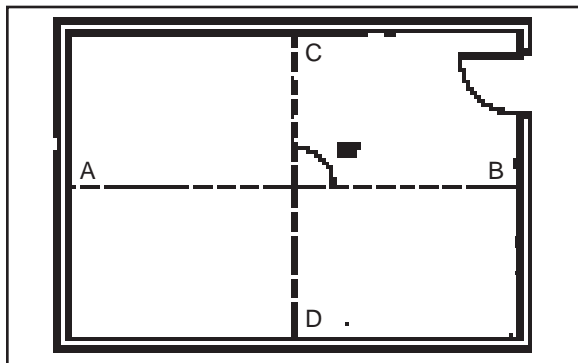

Fig. 1. Square layout
- Place a mark in the center of the floor at each end of the room. Snap a chalk line down the center of the floor to connect the marks (AB).
- Find the center of the line and snap a second chalk line (CD) at a right angle using the 3', 4', 5' method to form a right angle (Figure 1).